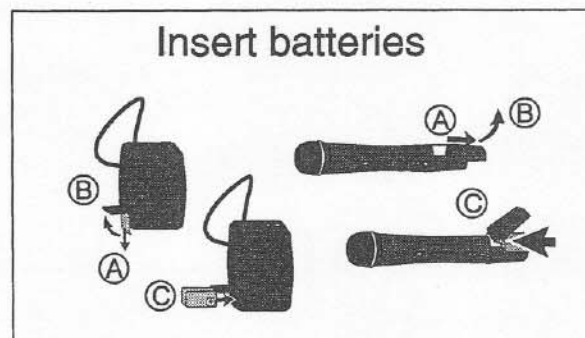

Figure 3 - Install 9-Volt alkaline battery into transmitter
- 6 Setup and adjust the transmitter level as described on the following pages (figures 3 and 4).
1) Insert battery. Slide open the battery compartment cover by pressing with your thumb on the horizontal grooves (at the tail end of the transmitter) while pulling back (figure 3). Lift up the hinged cover. Slide a fresh 9-volt alkaline battery into the battery compartment, with the positive (smaller) terminal to the right (with the battery-compartment end of the case toward you). Push the battery all the way in gently, close the hinged door, and press on the horizontal grooves while sliding the cover back into place.
1) Insert battery. Open the hinged door by sliding down and then lifting to a 90 degree angle (figure 3). Place a fresh 9-volt alkaline battery, terminals first, with the positive (smaller) terminal away from the battery door hinge, into the battery compartment. Close the door, and slide up to latch.